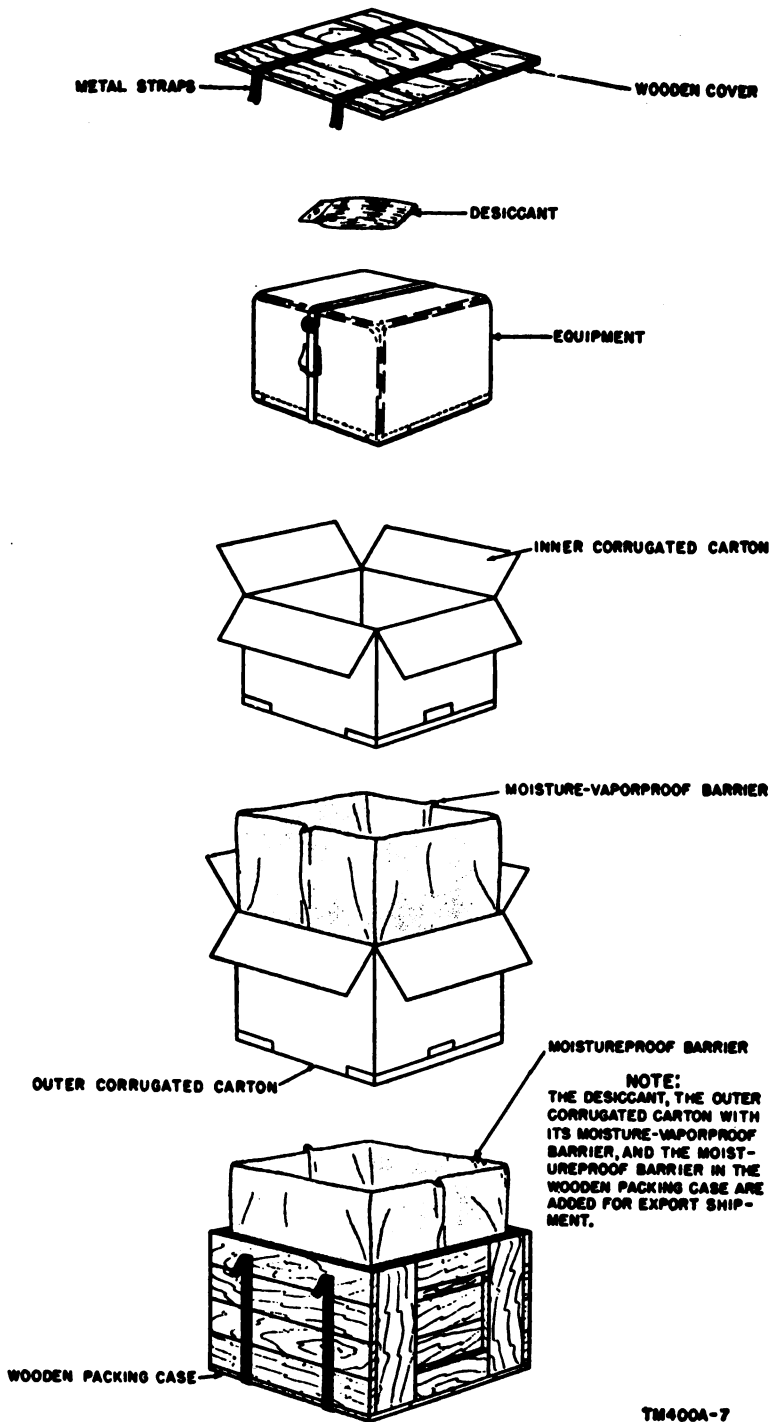

Figure 7. Packaging and packing diagram.
- (3) The carrying case is placed within a close-fitting corrugated fiberboard carton and sealed with gummed tape (fig. 7).
- (4) The packaged case is placed within a nailed wooden shipping container which is bound with metal straps (fig. 7).
- (1) For export shipment the equipment is packaged as described in *a* (1) through (3) above except that a desiccant is placed within the corrugated fiberboard carton before closing and sealing.
- (2) The packaged equipment is then placed within a second corrugated fiberboard carton which is lined with a moisture-vaporproof barrier. This carton is sealed with gummed tape (fig. 7).
- (3) The packaged equipment is then placed in the nailed wooden shipping container which is lined with a moistureproof barrier (fig. 7).
- (4) The lid of the wooden shipping container is nailed on and the container is further strengthened with metal straps (fig. 7).
- (1) Cut the metal straps with a suitable device, or twist them with pliers until the straps break (fig. 7).
- (2) Remove the nails with a nail puller. Prying may damage the equipment.
- (3) Carefully remove the top of the shipping container. Do not damage the wooden container because it may be reused for future repacking, shipment or storage. Avoid thrusting crowbars or other pointed tools into the interior of the shipping container.
- (4) Pull out the fiberboard carton from the shipping case and open the carton.
- (5) Pull out the second fiberboard carton from the first one and open it. Remove the desiccant.